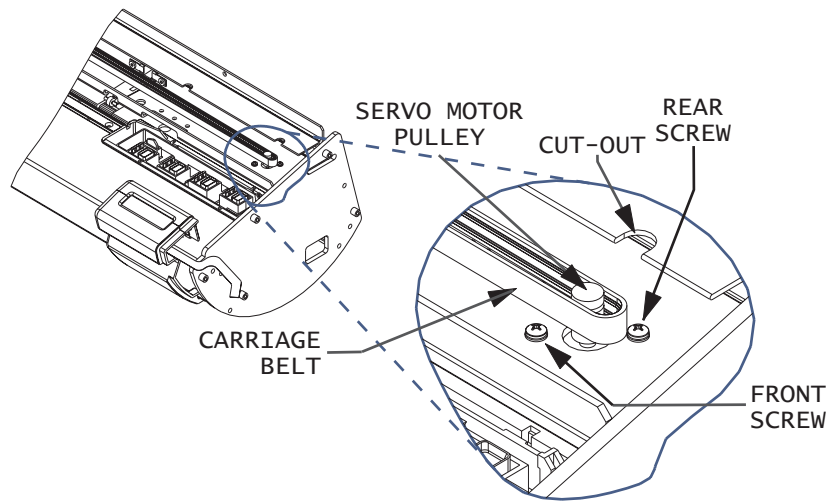

Figure 5-5. Removal of Servo Motor.
5. Use a #2 Phillips screwdriver to remove the back screw on the Servo Motor. See Figure 5-5. While using extreme care not to damage the Trailing Cable, align the screwdriver through the cut-out on the Stabilizer Bracket to get a good angle on the screwhead.
7. See Figures 5-5 and 5-6. While you compress the back of the Frame Tensioner with your left index finger, use your right hand to gently remove the Carriage Belt from the Servo Motor pulley.
6. Compress the back of the Frame Tensioner and use the end of a screwdriver to remove the Carriage Belt from the Servo Motor pulley. See Figures 5-5 and 5-6.